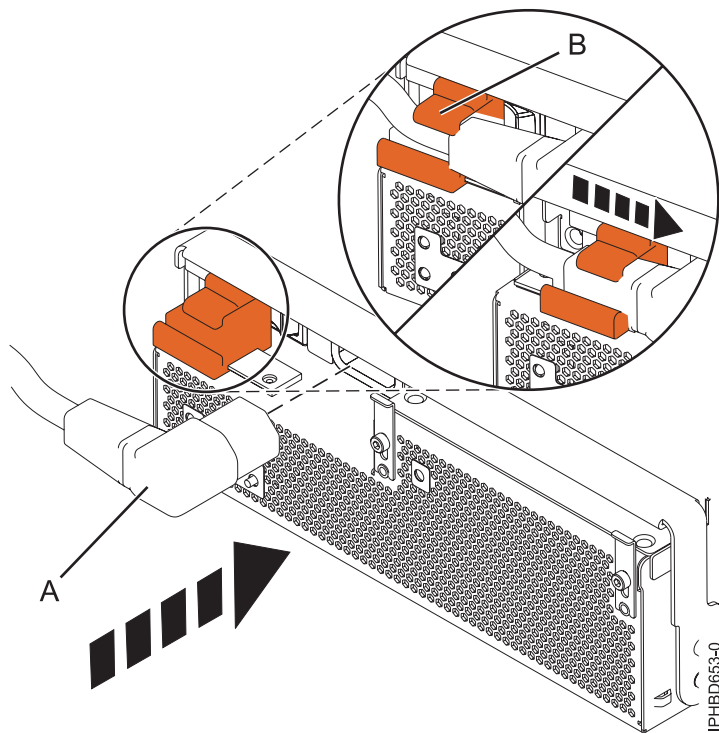

Figure 17. Connecting the power cable to the front of an expansion unit
8. Connect the power cable (A) to the front of the power supply, and then slide the cable retention bracket (B) to the closed position to secure the cable as shown in Figure 17.